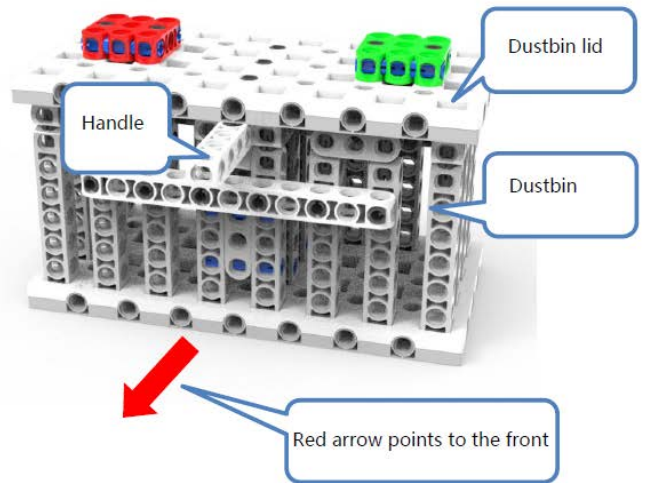

Figure 3-3-1 Waste Sorting Task Model Initial Status
3.2.1 Waste Sorting task model may be placed in positions 1 to 10 with a fixed direction; red arrow points to the front; there is a handle and a dustbin with a red and green sign in the model; the dustbin lid is closed, as shown in Figure 3-3-1.